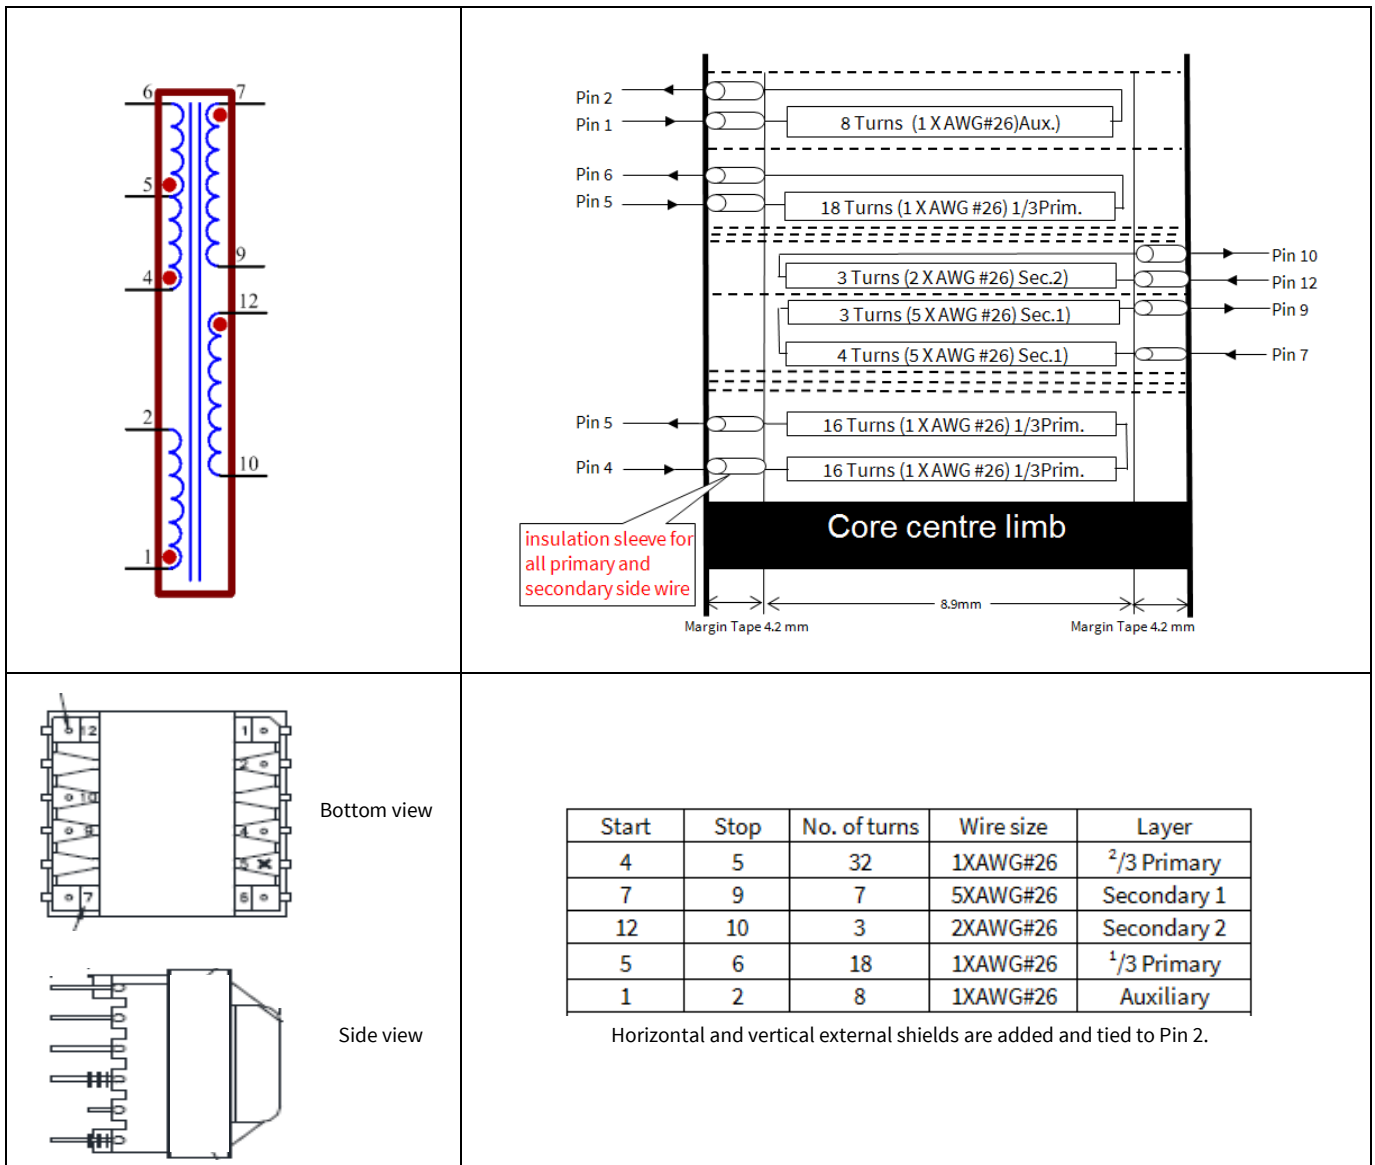

Figure 8 Transformer specifications
- Good transformer winding coupling is very important. Without this it would lead to high leakage inductance and incur a lot of switching spike and HF noise. The most effective method is to adopt sandwich winding (refer to Figure 8) where the secondary winding is in the middle of the winding and covered by the primary winding on the bottom and top layer. Shielding the transformer can reduce the HF noise. The outermost shield wrapped around the transformer cores with copper foil can help to reduce leakage flux and reduce the noise coupling to nearby components. The inner shield (copper foil or copper wire winding) between the transformer windings can help to reduce the parasitic capacitance and reduce the HF noise coupling. Both shields need to tie to the negative of C13 to achieve the best performance, but note that the inner shield approach would result in more energy loss.